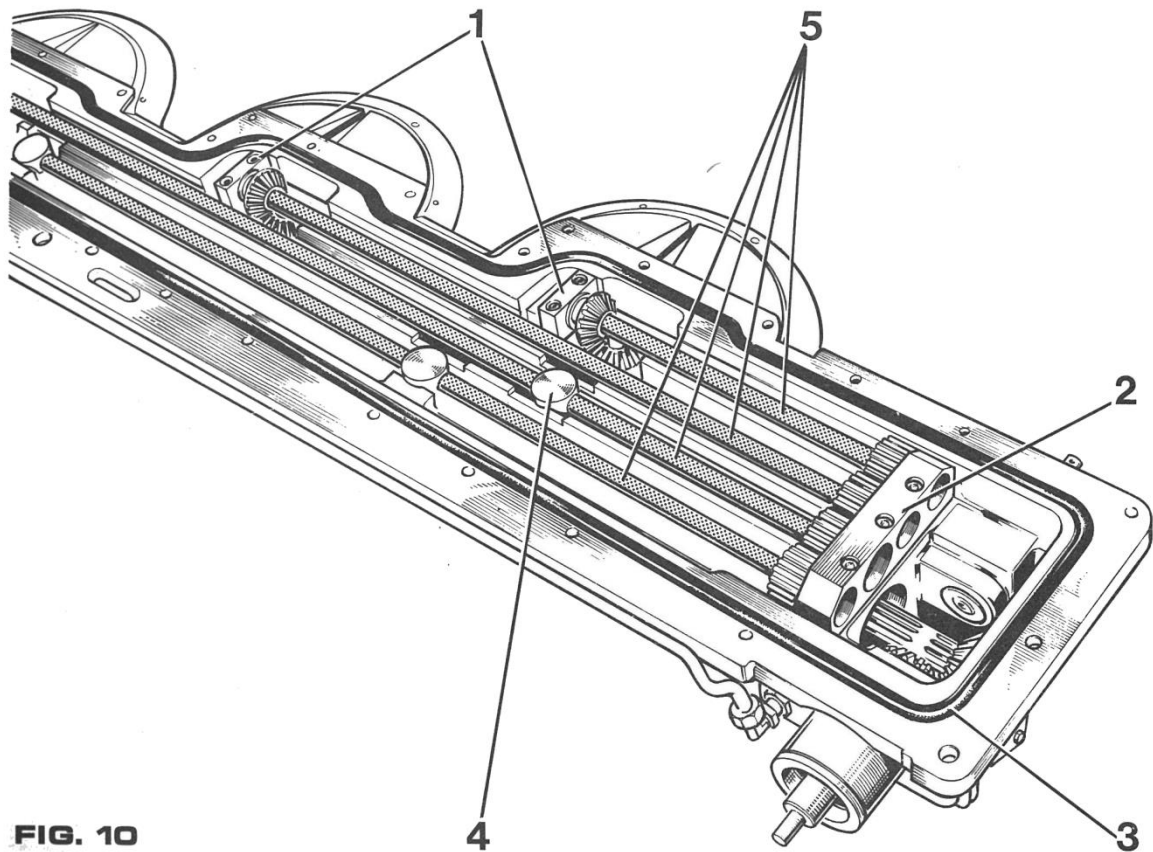

FIG. 10
Remove the belly pan gasket (3 Fig.10) and wash transmission components thoroughly with solvent to remove residual oil.
For this operation the drive shafts (5 Fig. 10) and their bearings (1 and 2 Fig.10) must be removed then;
This operation requires the removal of the drive shafts (5 Fig.10) and their bearings (1 and 2 Fig.10): for this, after removing the fixing screws, the four shafts with their bearings will be removed together and parallel to their initial position, to avoid jamming of the dowels (6 Fig.11) in the landings.
(Fig.5) This operation consists of allowing a side play of the horizontal pinion 17 teeth (4) of 0.1 mm after reassembling the bearings (1 and 2 Fig. 10) tightened to 4 m kg [40 N.m] This will determine the thickness of the shims (12) to obtain the recommended setting.
Note that the 3 fixing screws of the bearing (2 Fig.10) are longer than those of the bearings (1 Fig. 10) of the "Nadella" bearings.
Having made the adjustments listed above, check the tightness of the bearings (1 and 2 Fig.10) of the drive shaft to 4 m.kg [39 - 40 N.m] and fit the intermediate bearings (4 Fig.10).
Place the belly pan O-ring gasket (3 Fig. 10) making sure that the two bevelled ends are properly glued (see note) and that its groove (1 Fig. 11) is perfectly clean; then fit the pressed steel belly pan and gradually tighten the assembly bolts. [NOTE: sealant may need to be added to the clamping faces of the O-ring at the right-angle gearbox end of the bar up to the first disc to augment to ensure leak-free performance. This is because the belly pan distorts between the bolts when the bolts are tightened. An alternative is to strengthen the belly pan in that area so that it does not distort so much.]